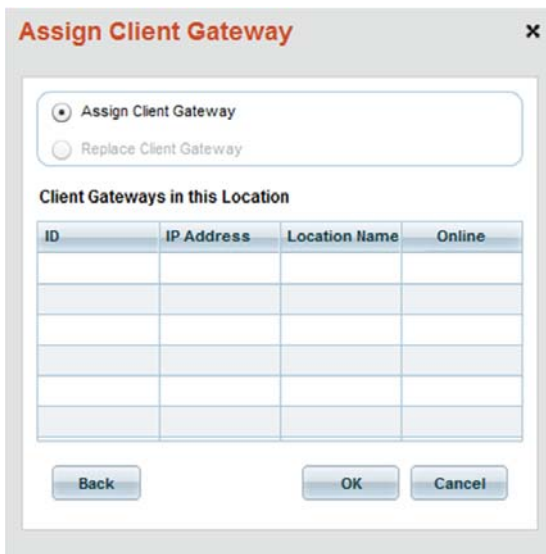

FIG. 21 Assign Client Gateway
- Otherwise, select *Assign Client Gateway* to simply add this as a new client in this location (FIG. 21).